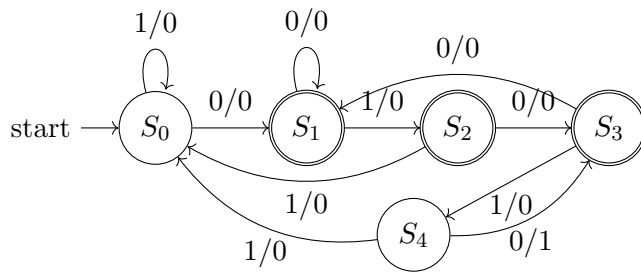

Figure 6.5: State diagram
3. The state diagram of a sequence detector is shown in Fig. 6.5 . State  $S_0$  is the initial state of the sequence detector. If the output is 1, then (GATE EC 2020)